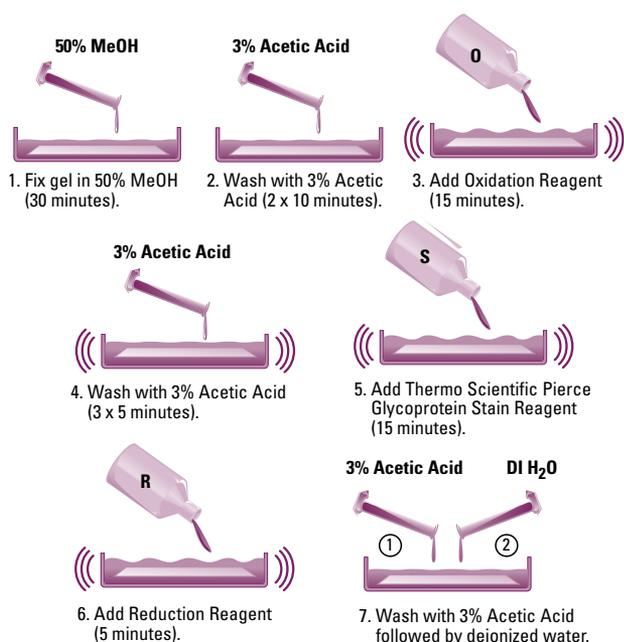

Figure 27. Thermo Scientific Pierce Glycoprotein Staining protocol.
- Three-reagent protocol yields results in less than two hours vs. four to five hours for other staining methods (Figure 27)